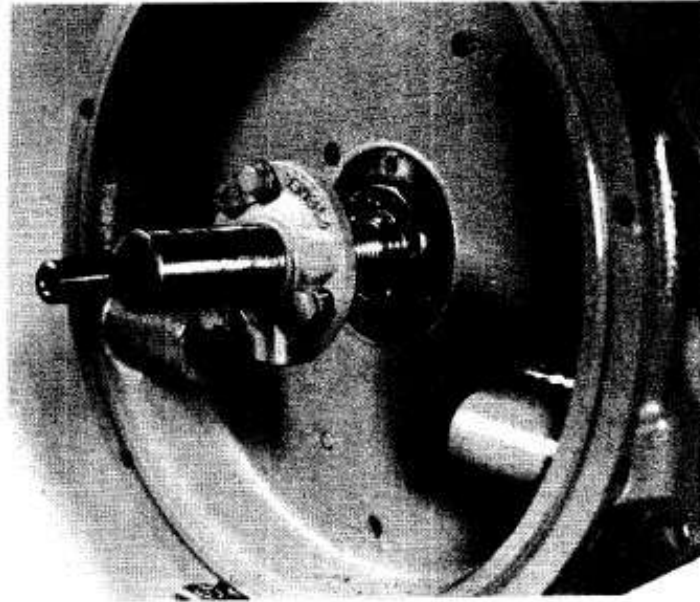

FIG. 2
4. REMOVE MAIN DRIVE SHAFT BEARING CAP. (SEE FIG. 2)